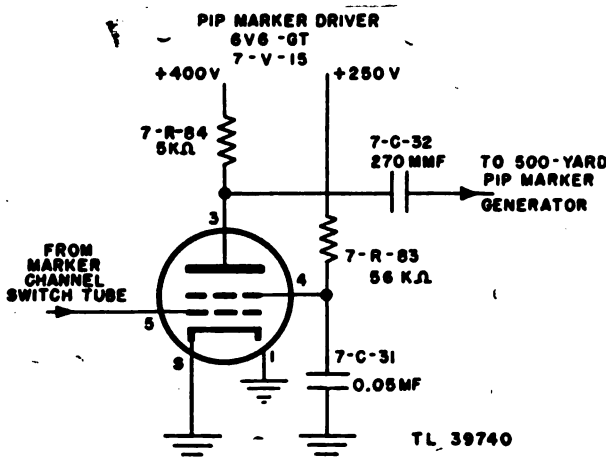

Figure 124. Pip marker driver, simplified schematic diagram.
**d. PIP MARKER DRIVER.** The action of the pip marker driver stage, 7-V-15 (fig. 124), is to invert and amplify the negative pulses developed in the preceding stage. The inverted or positive pulses appearing in the output have an amplitude of approximately 125 volts.
**d. PIP MARKER DRIVER.** A 6V6-GT tube, 7-V-15 (fig. 124), is used in this stage. The cathode is connected directly to ground, the screen is connected to a +250-volt source through 56,000-ohm resistor 7-R-83, and held at a constant potential by the action of bypass capacitor, 7-C-31. With the MARKERS switch open, the grid voltage applied through resistors 7-R-82 and 7-R-88 is -105 volts; therefore the tube is at cut-off. When